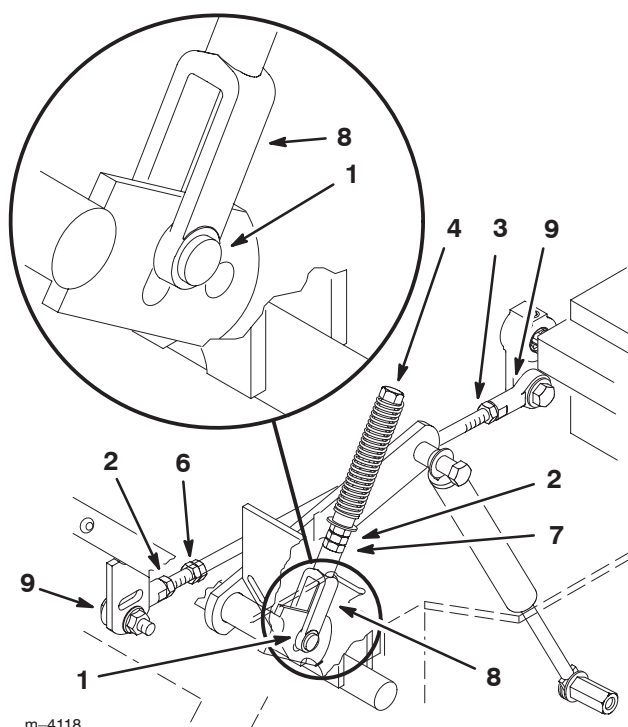

Figure 46
6. Pull the lever back until the clevis pin (on the arm below the pivot shaft) contacts the end of the slot (just beginning to put pressure on the spring) (Fig. 46).
8. If adjustment is needed, loosen the nut and jam nut against the yoke (Fig. 46).
10. Tighten the nut and jam nut (Fig. 46).
1. Loosen the locknuts at the ball joints on the pump control rod (Fig. 46).
3. Adjust the pump rod length by rotating the double nuts on the rod in the appropriate direction until the wheel is still or slightly creeps in reverse (Fig. 46).
6. Tighten the nuts at the ball joints (Fig. 46).